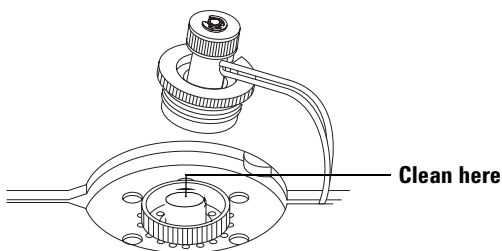

Figure 65 Exploded view of the upper part of the inlet
- 5 Use a cotton swab moistened with acetone to clean the exposed part of the inlet. See Figure 65.